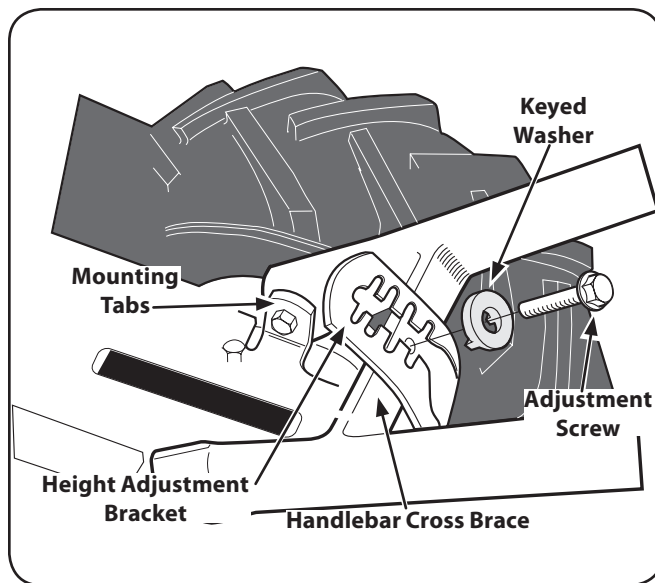
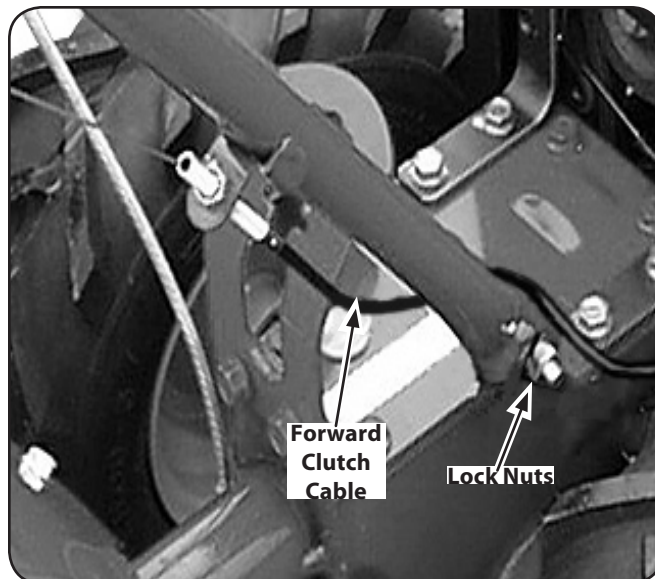

Figure 3-2
Figure 3-3
3. Gently lift the handlebar (do not overstretch the attached cable) and place the handlebar cross-brace in front of the curved height adjustment bracket. See Fig. 3-2.
4. With the forward clutch cable on the inside of the handlebar (See Fig. 3-3), position the handlebar ends on the outside of the two mounting tabs shown in Fig. 3-2 on the transmission top cover.
NOTE: The curved handlebar height adjustment bracket appears as shown in Fig. 3-2 for non-electric start tillers. For electric start machines, the bracket is loosened and moved to one side.
5. Loosely attach the handlebars to the mounting tabs with two $\frac{3}{8}$ "-16 x 1" screws (heads of screws go to inside of tabs), $\frac{3}{8}$ " flat washers and $\frac{3}{8}$ "-16 lock nuts. See Fig. 3-3.
7. Move the handlebars up or down to align the threaded hole in the crossbrace with one of the four slots in the curved height adjustment bracket. Place the keyed washer on the flange head height adjustment screw with the raised edges of the washer facing down. See Fig. 3-2.